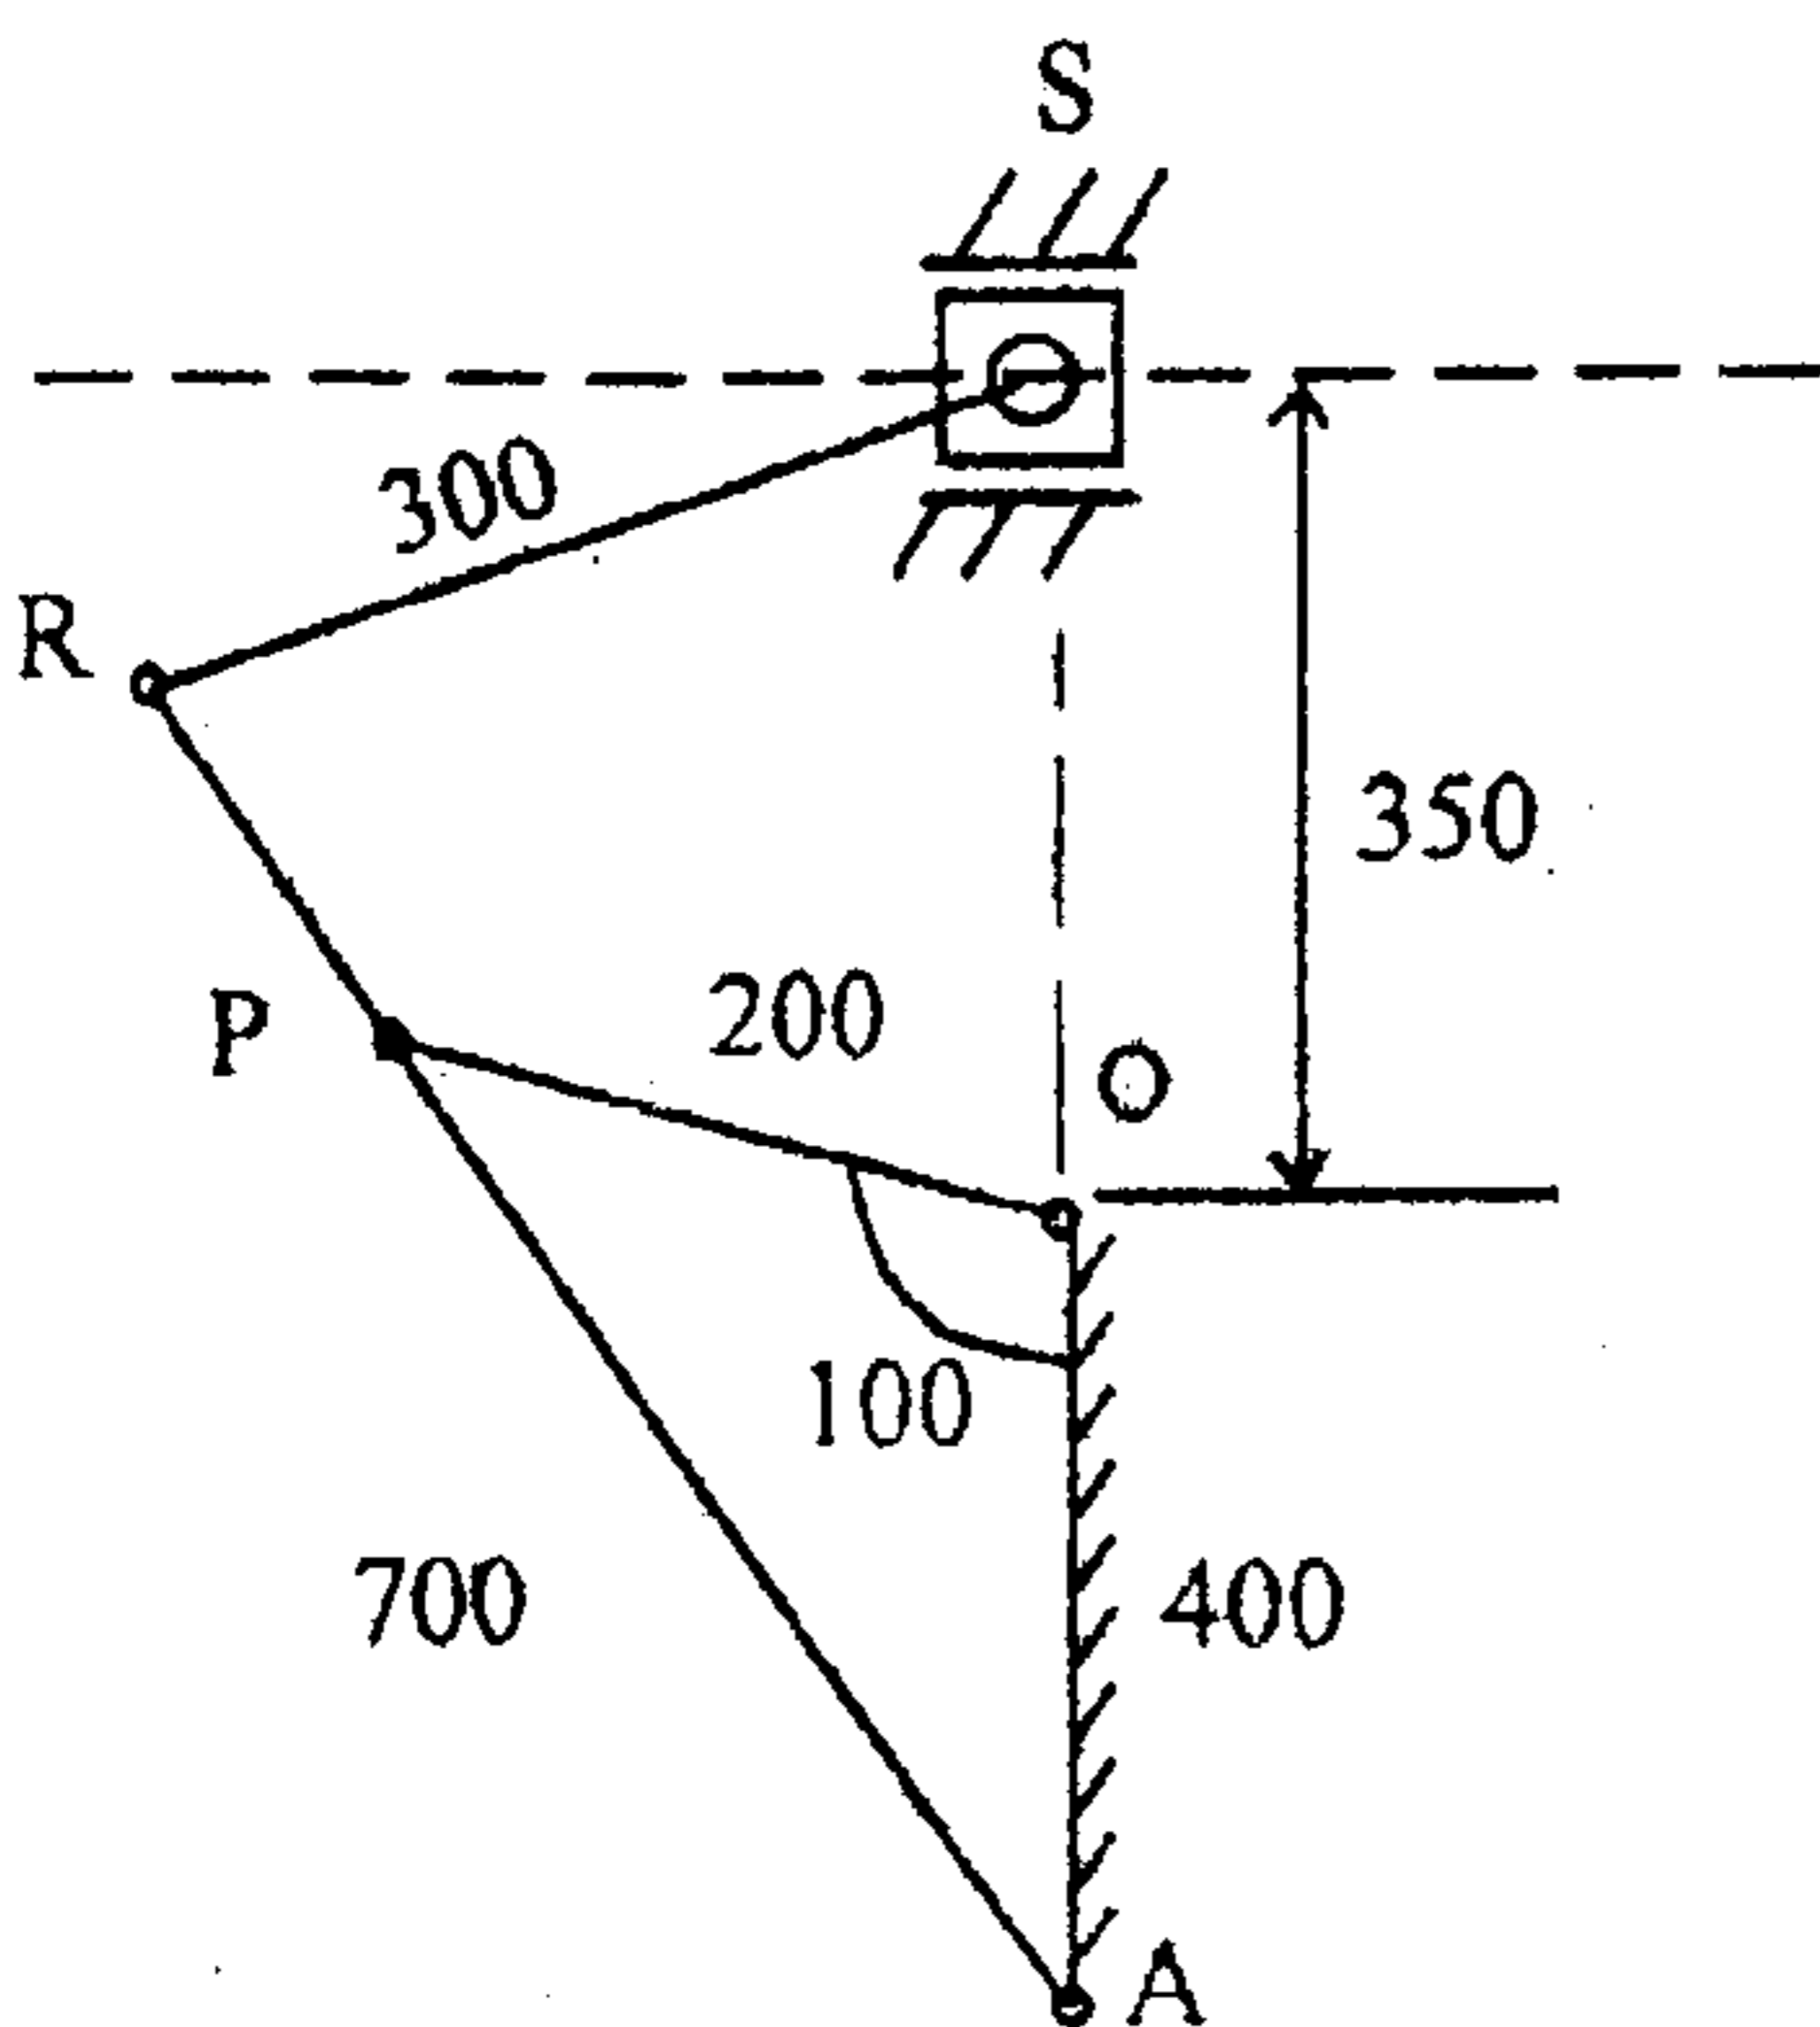

Figure 2
13. Figure 2 shows the link mechanism of a quick-return mechanism, the various dimensions of which are, OA : 400 mm, OP : 200 mm, AR : 700 mm, RS = 300 mm. OA = 400 mm, OP = 200 mm, AR = 700 mm, RS = 300 mm  $\angle AOP = 100^\circ$ . For the configuration shown determine the acceleration of the cutting tool at S and the angular acceleration of the link.